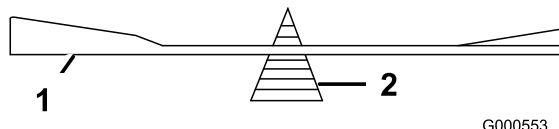

Figure 57
2. Check the balance of the blade by putting it on a blade balancer (Figure 57).